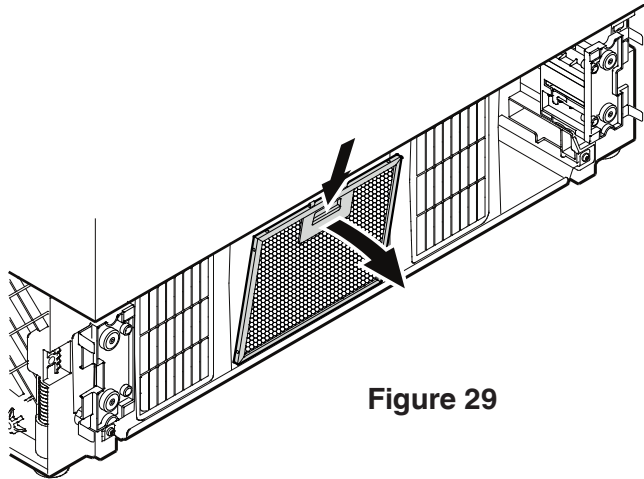

Figure 29
- Push down the button of the air filter, tilt to the front and remove - **Figure 29**.